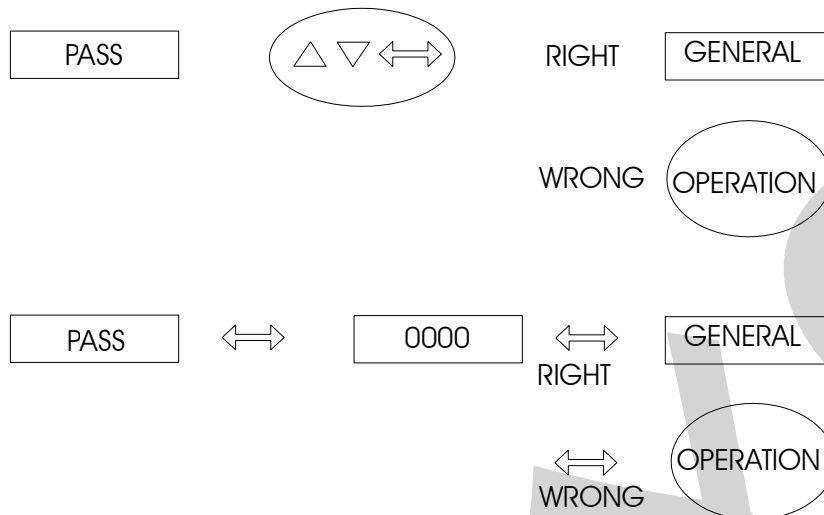

Figure 11 - Password through key sequence or value
- ii) To display the PASS warning, indicating that the instrument is provided with a password system (a key sequence or a value), according to figure 11.
For a value password, the user must press the ENTER key for a second time in order to view the number 00000 with the right end digit blinking. The position which is blinking indicates the digit in the number to be changed by the user with the UP and DOWN keys. Move to the digits on the left by pressing ENTER. After entering all digits, press ENTER again. If the password is correct level 1 is accessed; otherwise, it returns to normal operation (see figure 11).